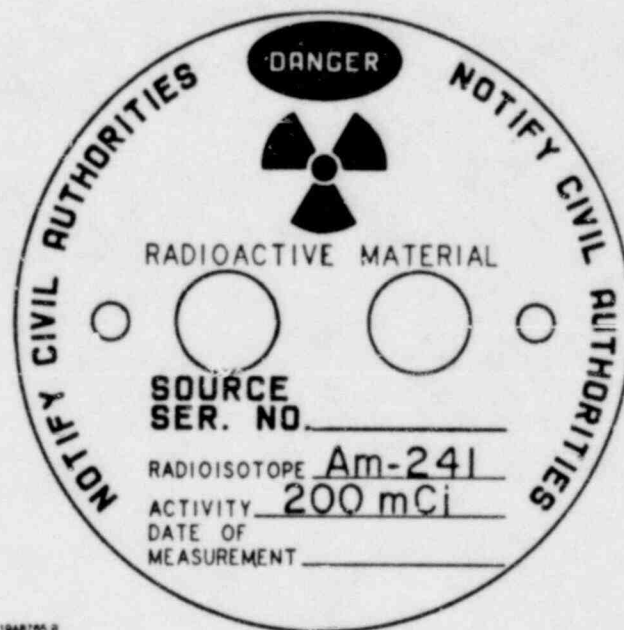

Figure 2. Warning Nameplate Used on a Type LD2220 Level Detector
are also listed on the warning nameplate as shown in figure 2. The warning nameplate (key 24, figure 8) is permanently attached to the head assembly that houses the radiation source. Fisher Controls serial tags (key 30, figure 8) are attached separately to the head assembly and to the count rate meter.